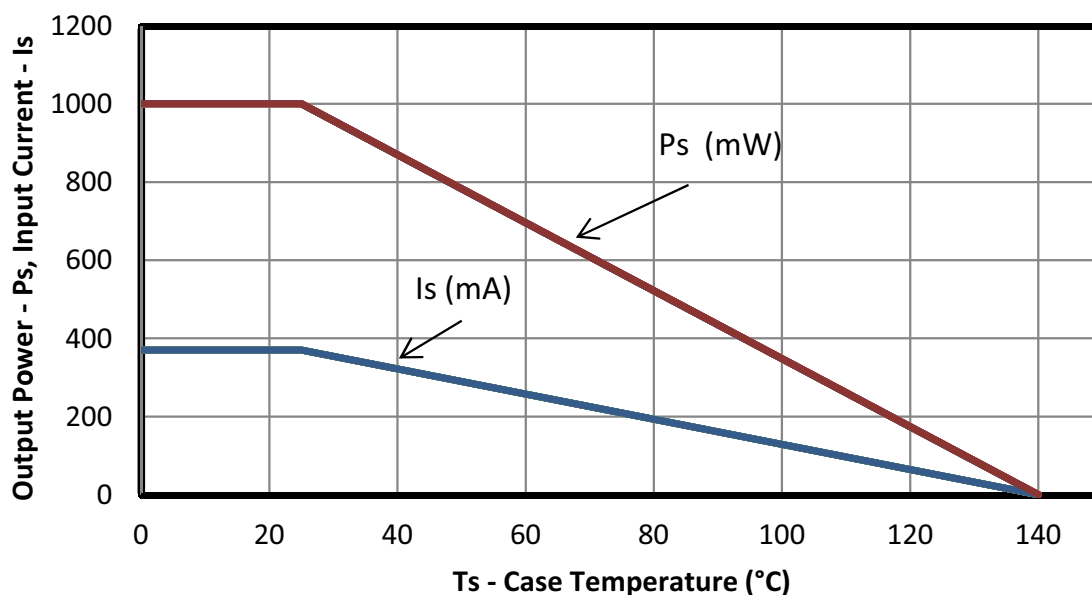

Figure 5. (SOIC-8) Thermal Derating Curve, Dependence of Safety Limiting Values with Case Temperature per DIN EN 60747-5-2 and VDE0884-10
**\*Note:** Maximum value allowed in the event of a failure; also see the thermal derating curve in Figures 5, 6, 7, and 8.